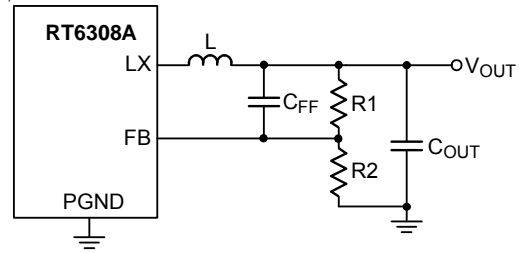
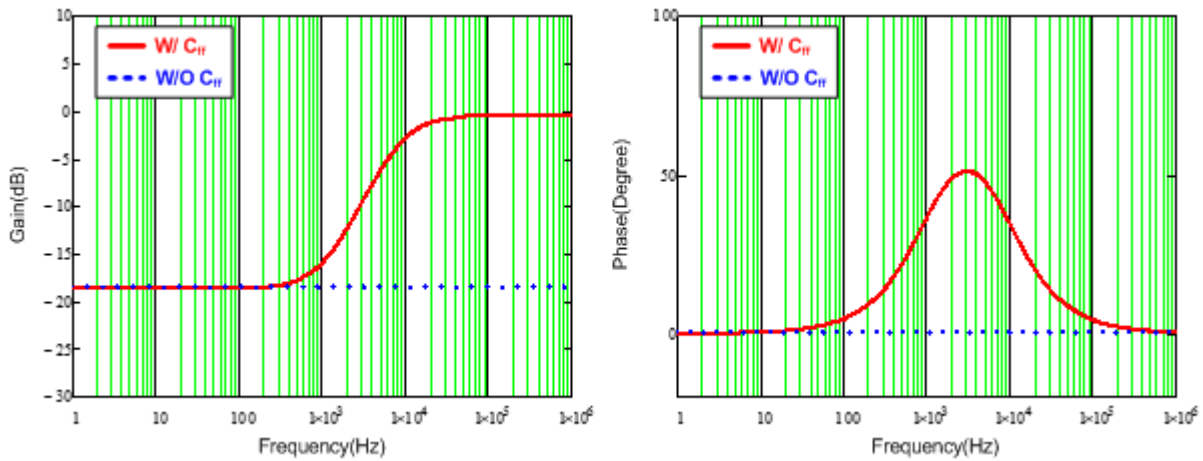

Figure 5. Feedback Loop with feedforward Capacitor.
Figure 6. Bode Plot with Different Feedback Loop Conditions
of compensator are integrated in IC. However, this integrated compensator might not suit to every load transient spec. Hence, for the RT6308A to be more adaptable, the feedforward capacitor  $C_{FF}$  is used in the feedback loop to improve transient response, as shown in Figure 5. Figure 6 shows the comparison result of bode plot with different feedback loop conditions. Referring to Figure 6, through connecting a  $C_{FF}$  in feedback network, the gain and phase are raised in mid-frequency that not only can extend the bandwidth, but boost the phase margin as well. Moreover, there is also a high frequency pole to eliminate high frequency noise. Consequently, those features of feedforward feedback network allow the RT6308A have faster response to handle different load transient.
Observing Figure 6, the maximum phase boost occurs between zero and pole frequencies that is defined as maximum phase boost frequency, as expressed in equation (4). Hence, in order to achieve the maximum phase boost by adding  $C_{FF}$  in the RT6308A, the system's original bandwidth has to be located at maximum phase boost frequency.